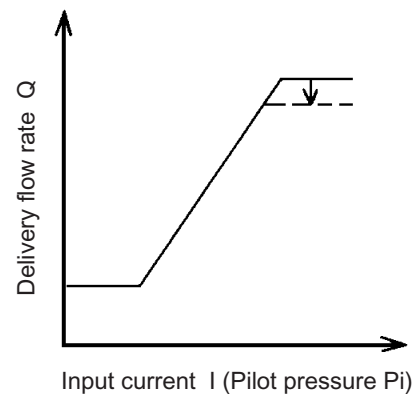

Fig. 24-17 Adjusting the max. delivery flow
Adjust the maximum flow by loosening nut (808) and by tightening set screw (954) (or loosening it). Tightening set screw (954) decreases the delivery rate, as indicated in Fig. 24-17.